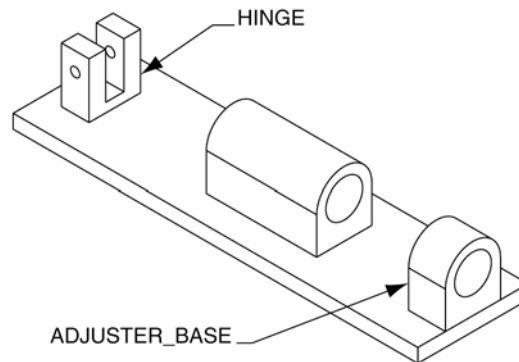

Figure 12-95: *Adjuster_Base* and Hinge Fixed Constraints
Step 10: Use the same technique for assembling the cylinder part to constrain the *HINGE* and *ADJUSTER_BASE* parts (Figure 12-95).